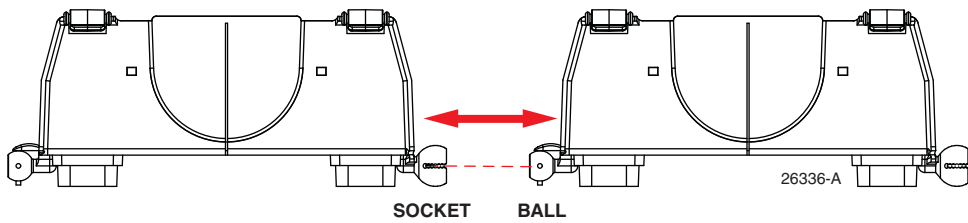

Figure 9. Joining Two Universal Troughs
2. Construct a chain of universal adapters as shown in Figure 9 by joining the ball and socket joints. To do this, orient the socket end on one universal adapter to mate it with the ball end on another universal trough. Snap the universal adapters together.
3. If side exits will be used for patch cord routing, snip top tab on side to be removed, press out the side pieces, and install a grommet (provided) as shown in Figure 9.